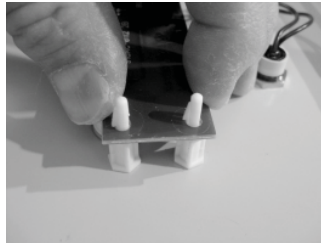

Figure 14 - Press the end of the Indicator Board completely down on its supports
d. Move to the end of the board. Using two fingers as shown in Figure 14, gently press this end of the Indicator Board completely down onto the nylon support. A quiet “click” may be heard when the supports lock into place.